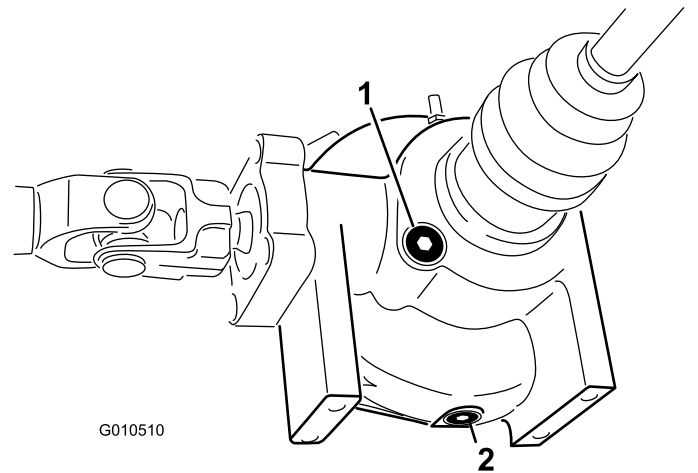

Figure 52
2. Clean the area around the drain plug on the side of the differential (Figure 52).